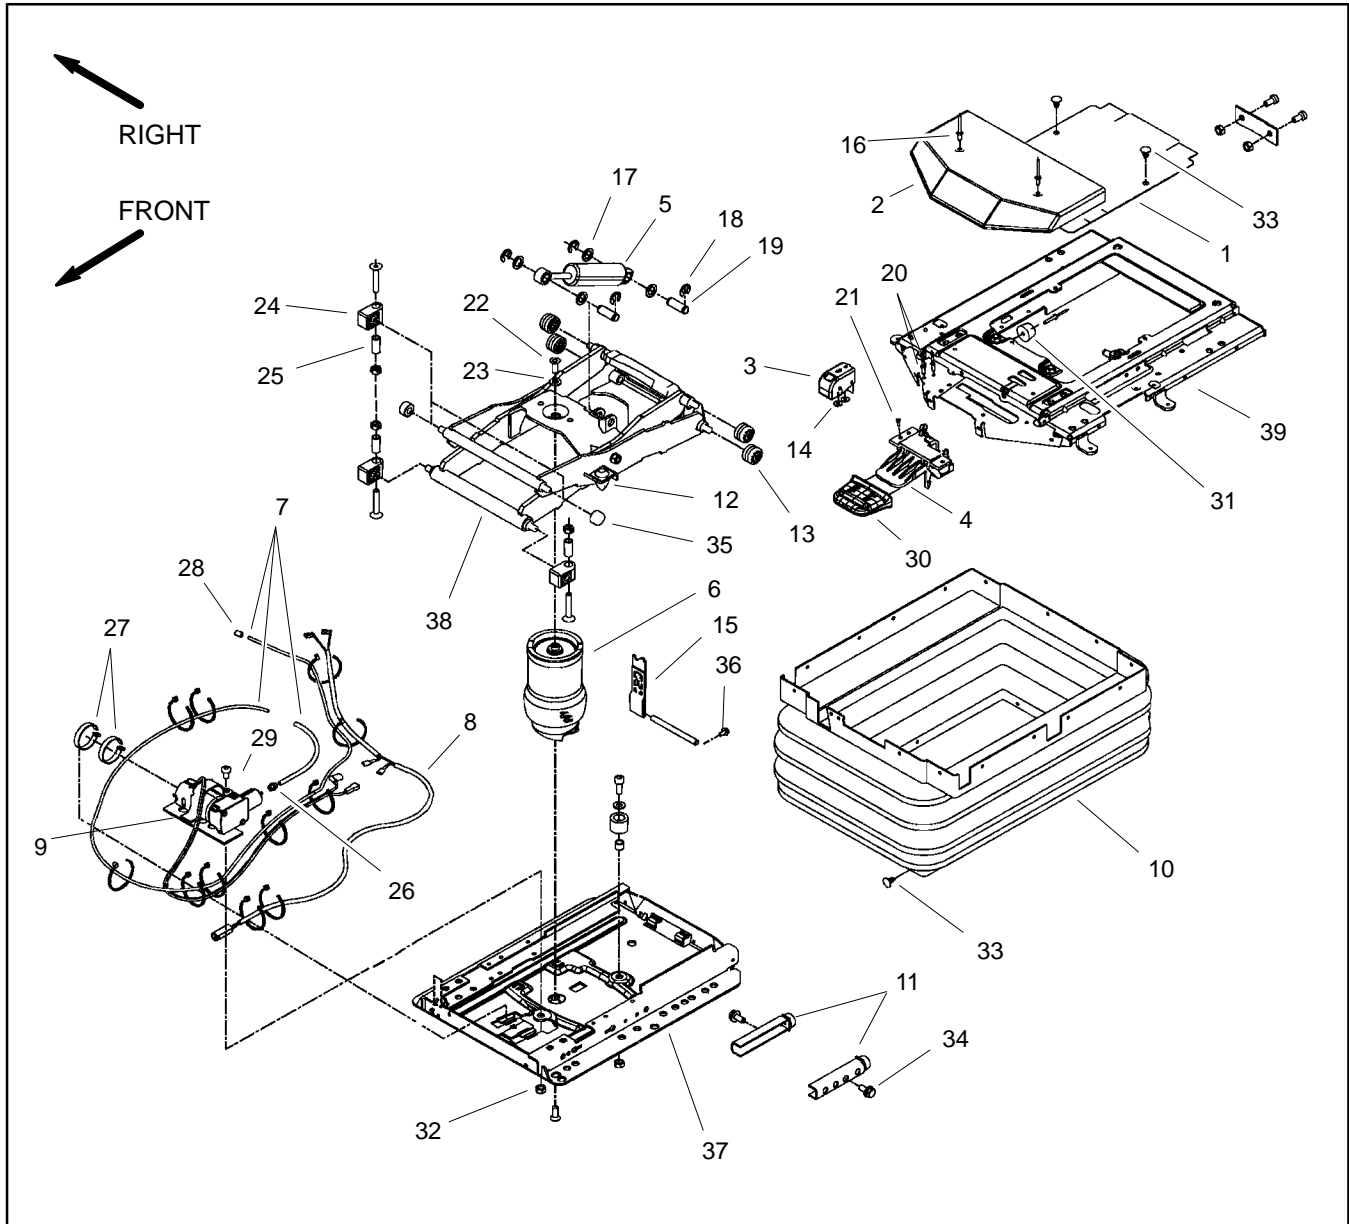
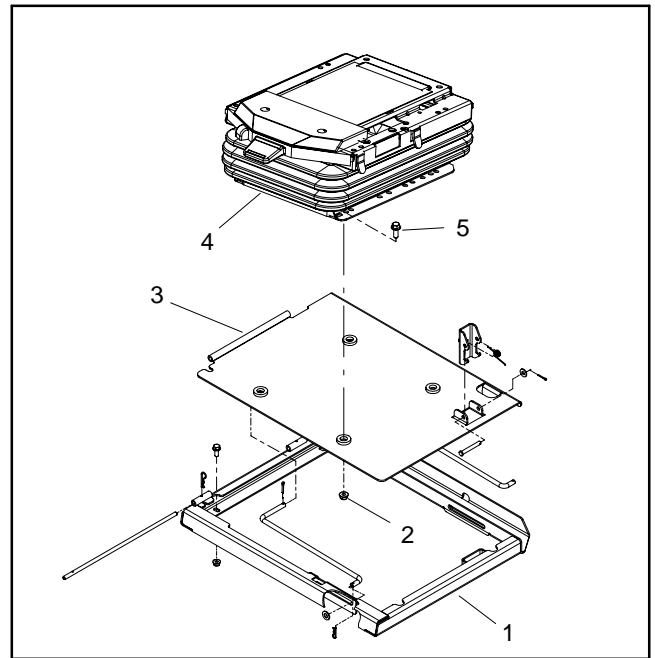

Figure 17
Figure 18
Disassembly (Fig. 17)
4. If the air spring assembly (item 6) or base plate (item 37) requires removal, remove seat suspension from seat plate (Fig. 18):
- B. Remove four (4) flange head screws and flange nuts that secure seat suspension to seat plate.
5. Remove seat suspension components as needed using Figure 17 as a guide.
Assembly (Fig. 17)
1. Install all removed seat suspension components using Figure 17 as a guide.
2. If seat suspension was removed from seat platform (Fig. 18):
- B. Secure seat suspension to seat plate with four (4) flange head screws and flange nuts.